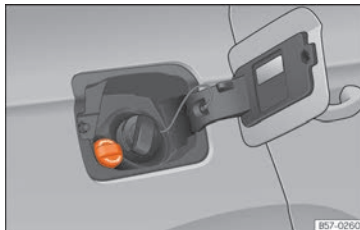

Fig. 220 AdBlue tank cap.
- Open the tank cover » Fig. 220.
- Turn the bottle in a counter-clockwise direction and gently pull it upwards » ❶.
- Turn the SCR tank cap anti-clockwise »» Fig. 220.